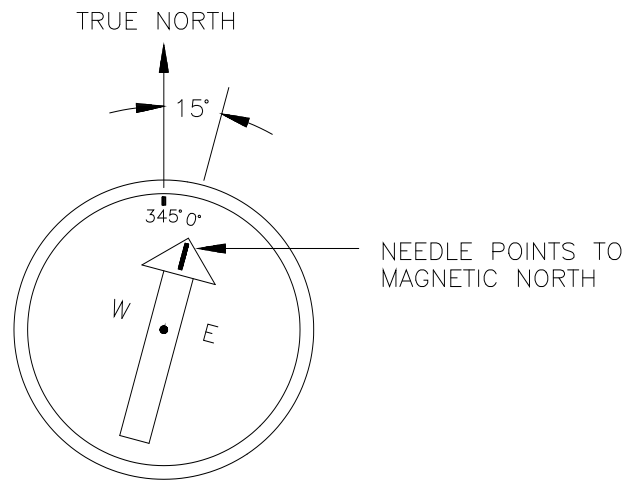

FIGURE A-2. A declination angle East of True North (positive) is subtracted from 360 (0) degrees to find True North
Declination angles are always subtracted from the compass reading to find True North. A declination angle East of True North is reported as positive a value and is subtracted from 360 (0) degrees to find True North as shown FIGURE A-2. A declination angle West of True North is reported as a negative value and is also subtracted from 0 (360) degrees to find True North as shown in FIGURE A-3. Note that when a negative number is subtracted from a positive number, the resulting arithmetic operation is addition.